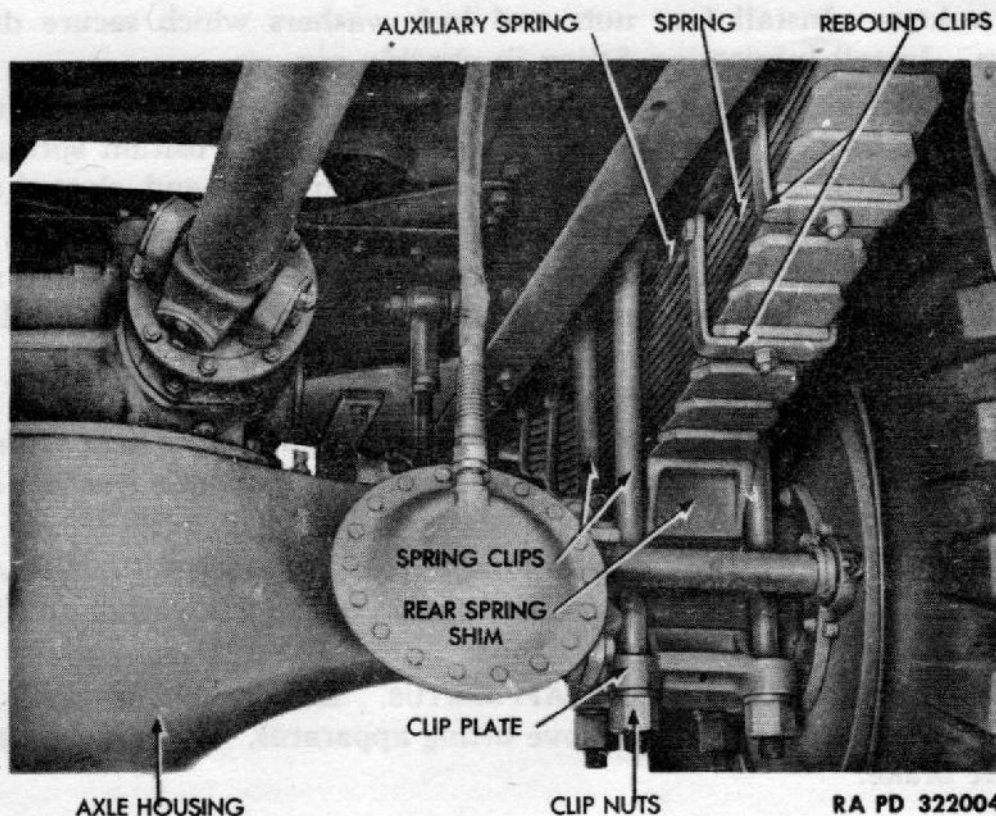

Figure 125 — Rear Spring Installed
(1) **DESCRIPTION** (fig. 125). Springs are attached to frame side rails by a bracket at front and a shackle at the rear. Attachment of springs to axle housing is made by two spring clips (U-bolts) which clamp center of spring to spring clip plate on housing. Auxiliary springs, which help to carry heavy loads, are mounted above rear springs. These springs contact special brackets, attached to frame, when rear springs flatten out.
b. Removal (fig. 125).
(1) LUBRICATE SPRING ATTACHING PARTS. Clean spring. Squirt penetrating oil or kerosene to clip nuts and spring pins.
(2) DISCONNECT SHOCK ABSORBER. Remove the jam nut and lock washer which secure link to rear spring shim. Remove the jam nut and lock washer which secure link to arm. Remove link.
(3) DISCONNECT SPRING CLIPS. Remove the four clip nuts and lock washers which secure clips to axle housing. Lift rear end of truck until clips are pulled free from axle housing. Remove clips and clip keepers.
c. Installation (fig. 125).